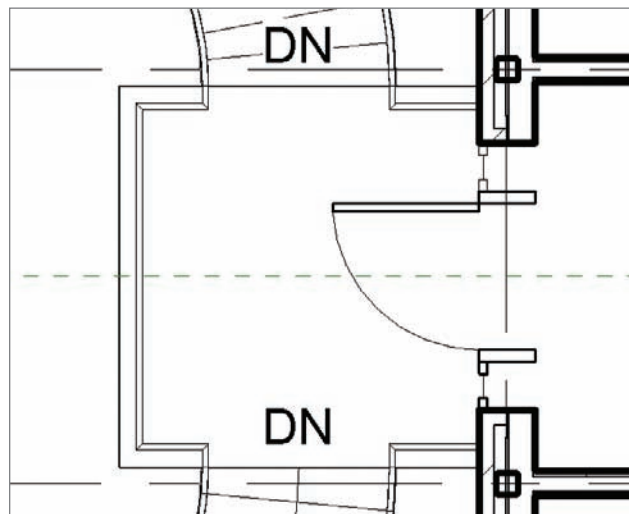

FIGURE 10.54 The railing at the front of the landing
11. You may have to flip the railing by selecting it, then clicking the Flip arrow. Your railing should look like Figure 10.54.